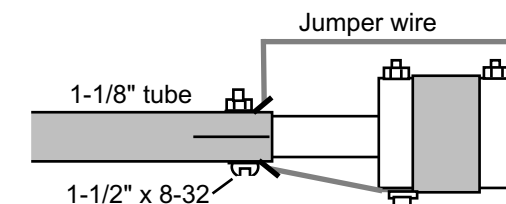

Figure-13: Resonator Installation Detail
- [] Slip the resonator tube inside the top of 1-1/8" radiator tube BE (**Figure-13**).